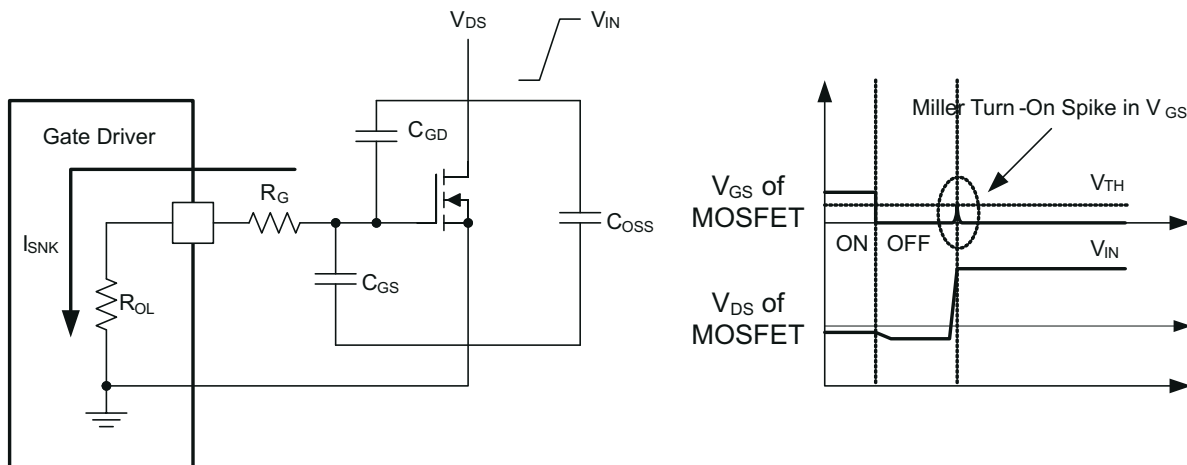

图 7-3. Low Pull-Down Impedance in UCC27614 (Output Stage Mitigates Miller Turnon Effect)
An example of a situation where Miller turnon is a concern is synchronous rectification (SR). In SR application, the dV/dt occurs on MOSFET drain when the MOSFET is already held in OFF state by the gate driver. The current charging the C_{GD} Miller capacitance during this high dV/dt is shunted by the pull-down stage of the driver. If the pull-down impedance is not low enough then a voltage spike can result in the V_{GS} of the MOSFET, which can result in spurious turnon. This phenomenon is illustrated in 图 7-3.